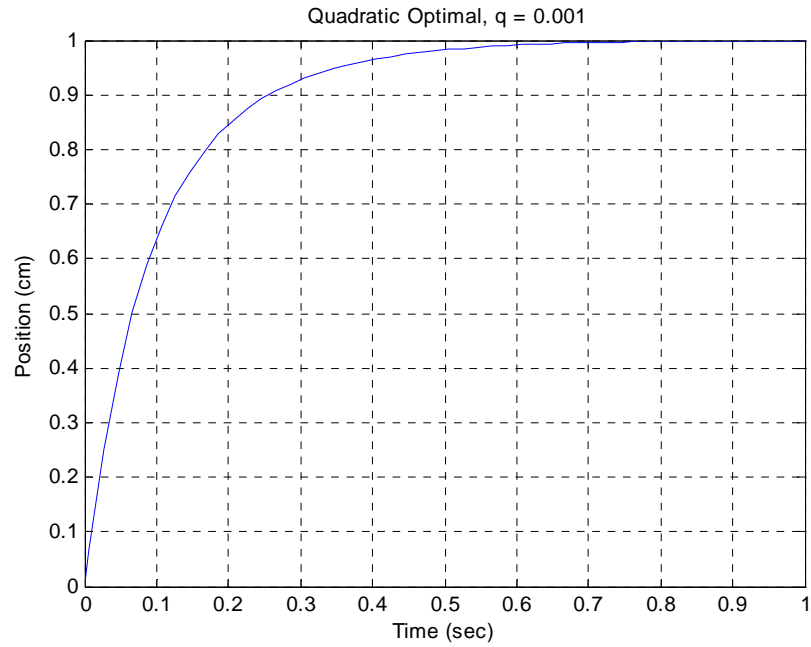

Figure 3. Step response of the new plant with the type 1 controller (Problem 5, part d)
d) Now simulate this system (plant from part c) with a unit step input using the controller and prefilter from part (b). You should get results like those in Figure 3. Turn in your graph.